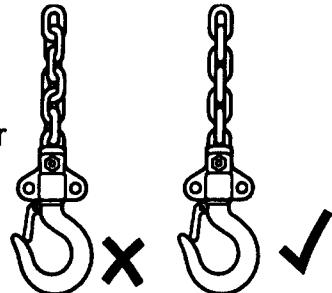

Fig. 4
- To lift or pull the load, turn the changeover switch to and operate the lever clockwise. For ease and precision of operation we recommend that the clockwise loaded pull is always downwards. The return ratcheted stroke is upwards. As the loadchain becomes tensioned, check that no twists occur (see fig. 4 and fig. 5).